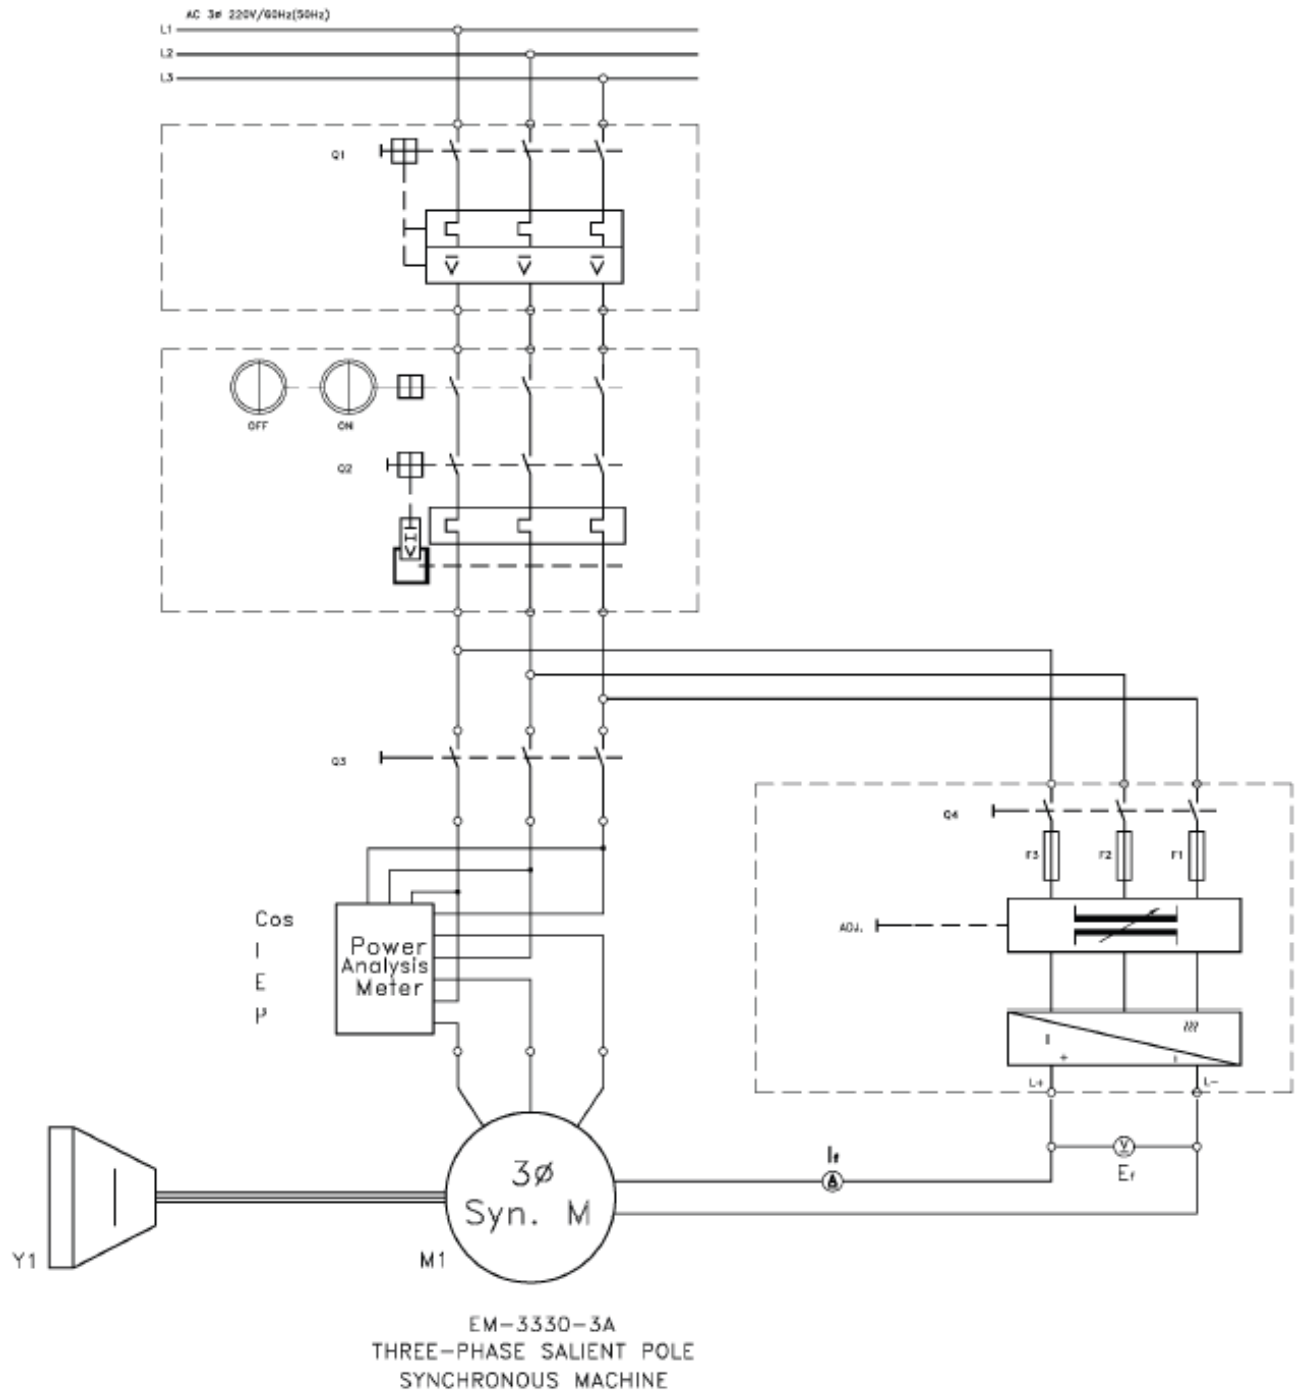

Fig. 14-3-1 Circuit diagram for load characteristic test
2. Install the required Modules in the Experimental Frame. Construct the circuit in accordance the circuit diagram in Fig. 14-3-1 and the connection diagram in Fig. 14-3-2. Have the instructor check your completed circuit. **Note:** The thermal switches of Three-phase Salient Pole Synchronous Motor and Magnetic Powder Brake Unit must be connected together.